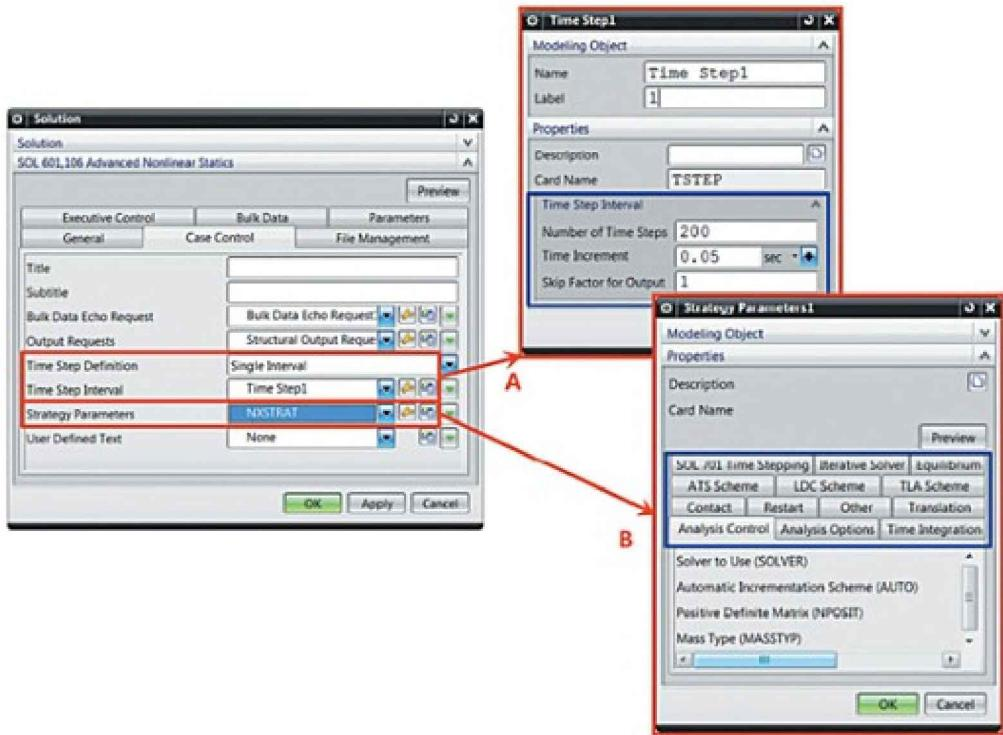

Figure 4.15. Key parameters of ADVNL 601 and 701 solutions
- In the *Time Step Definition* list, specify one (by default) or several time intervals to be created (Figure 4.15, A).
- Under *Time Step Interval*, specify the number of time increments, the magnitude of the increment, and the results recording frequency (Figure 4.15, A).
- Under *Strategy Parameters*, you can specify a number of parameters (**Strategy Parameters**) that are paramount to a successful nonlinear analysis. The parameters belong to several types depending on their role in nonlinear simulation. There is a separate tab for each type (Figure 4.15, B):